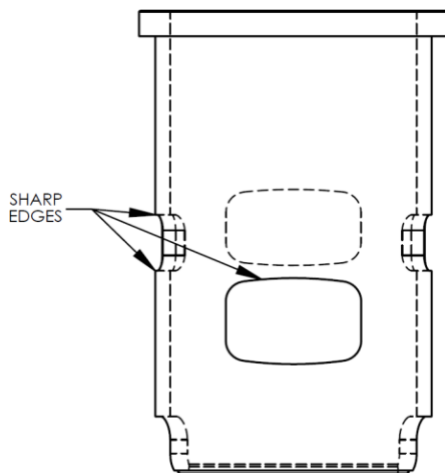

Figure 2: New sleeve – sharp edges
1. Using a rotary file, chamfer the sharp edges on the outside of the new sleeve on each port (see Figure 2). This will prevent scuffing on the cylinder casting when inserting the new sleeve.